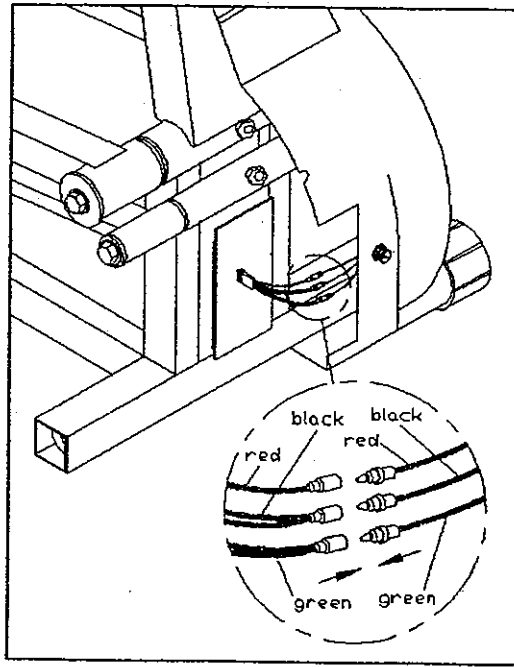

Fig. 3
c. Make sure the color wires connected are correctly. (see Fig.3).